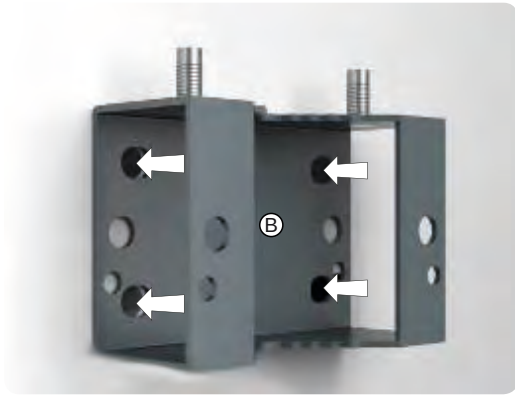

Fig. 21: Marking mounting holes for bracket ⑥
1. Hold the bracket ② to the installation location and mark the position of the 4 mounting holes; see arrows in Fig. 21.